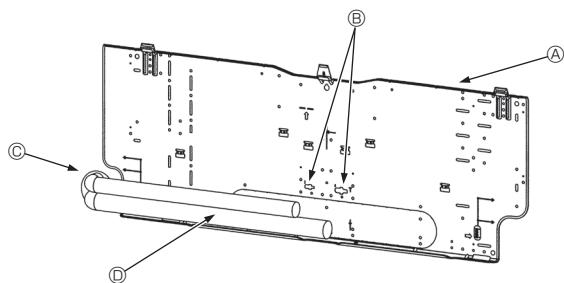

Fig. 3-5
3.3. When embedding pipes into the wall (Fig. 3-5)